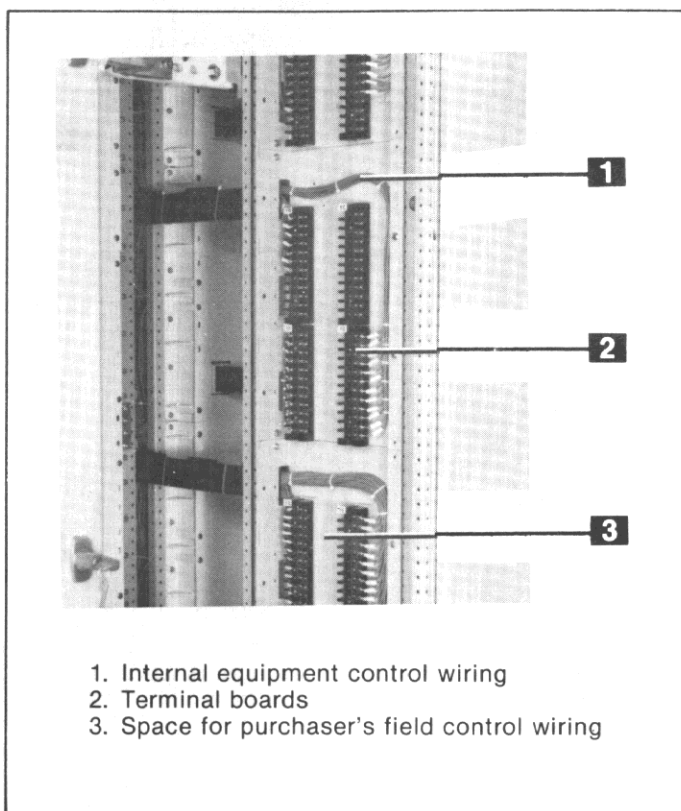

Fig. 3-29. Control wiring termination trough
Fig. 3-29. When furnished, the terminal boards (2), Fig. 3-29, for such connections are mounted in an enclosed vertical wiring trough mounted on the side of the cable compartment. The trough is of steel construction with bolted cover (4) to provide an isolation barrier between the control wiring (1) and the adjacent power cables.